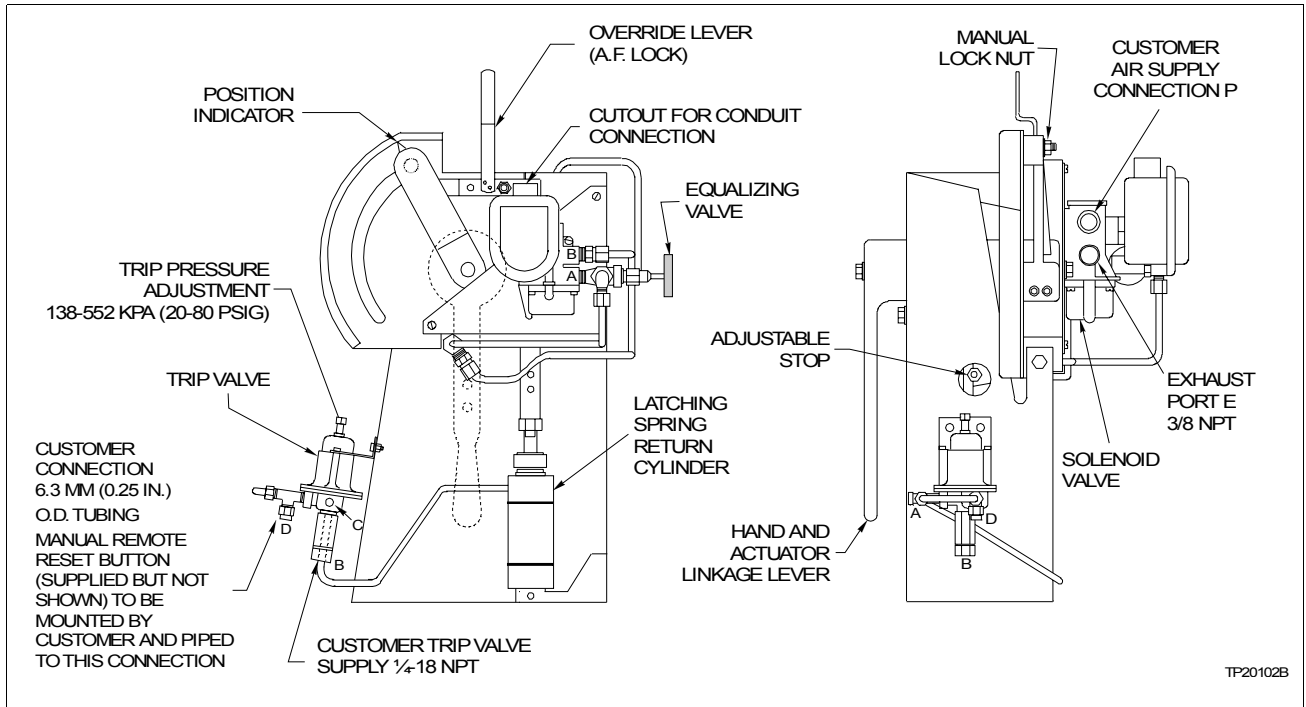

Figure 3-9. Type UP1 Actuator with Solenoid Valve and Air Failure Lock
**NOTE:** Refer to Figures 3-9 And 3-10.
1. Refer to Figures 3-9, 3-14 and 3-15.